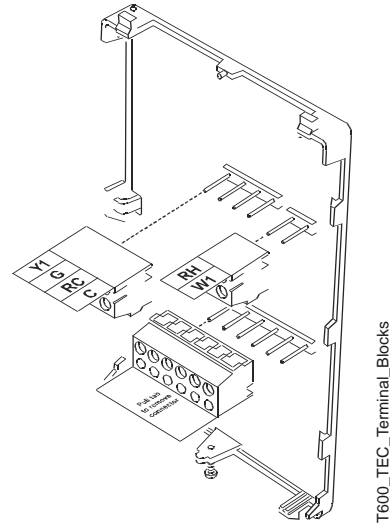

Figure 4: Removing the Terminal Blocks
8. Pull out the screw terminal blocks using the pull-tabs on each connector (Figure 4).